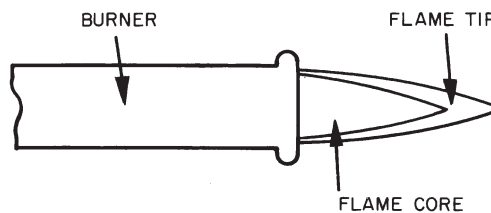

Fig. 159 — Proper Flame Appearance
1. The burner flame should be predominately blue in color, and well-defined and centered at the tube entry as shown in Fig. 159. Distorted flame or yellow tipping of natural gas flame, or a long yellow flame on propane, may be caused by lint and dirt accumulation inside burner or at burner ports, at air inlet between burner and manifold pipe, or debris in the main burner orifice. Soft brush or vacuum clean affected areas.
3. Check the appearance of the burner flame. See Fig. 159 on page 180.